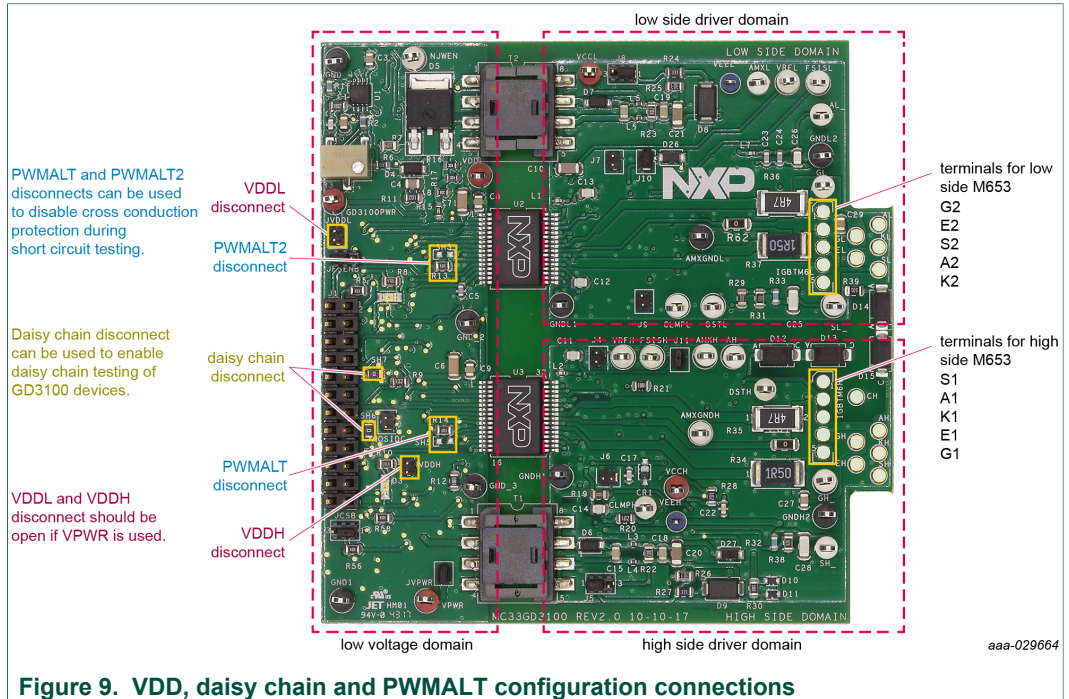

Figure 9. VDD, daisy chain and PWMALT configuration connections
- a. For daisy chain SPI communication of gate drive devices see Figure 9 and use daisy chain test interface section only of SPIGEN GUI GD3100 Mode tab.
- b. For short-circuit testing, PWMALT and PWMALT2 must be disconnected to disable cross-conduction and deadtime protection as described in Figure 9.